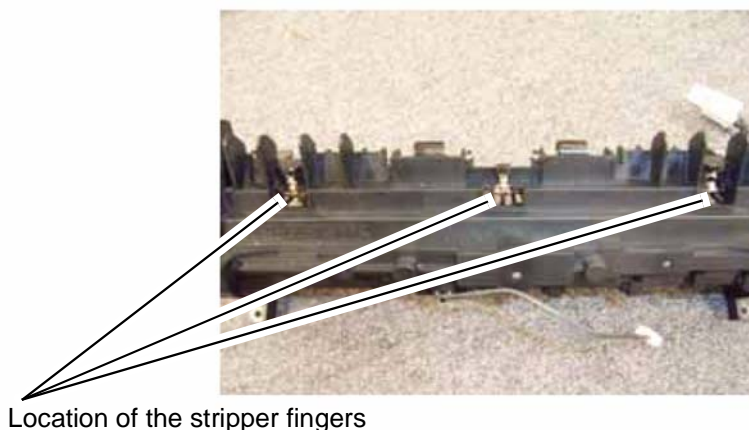

Figure 1
1. Identify the location of the heat roller stripper fingers, Figure 1.